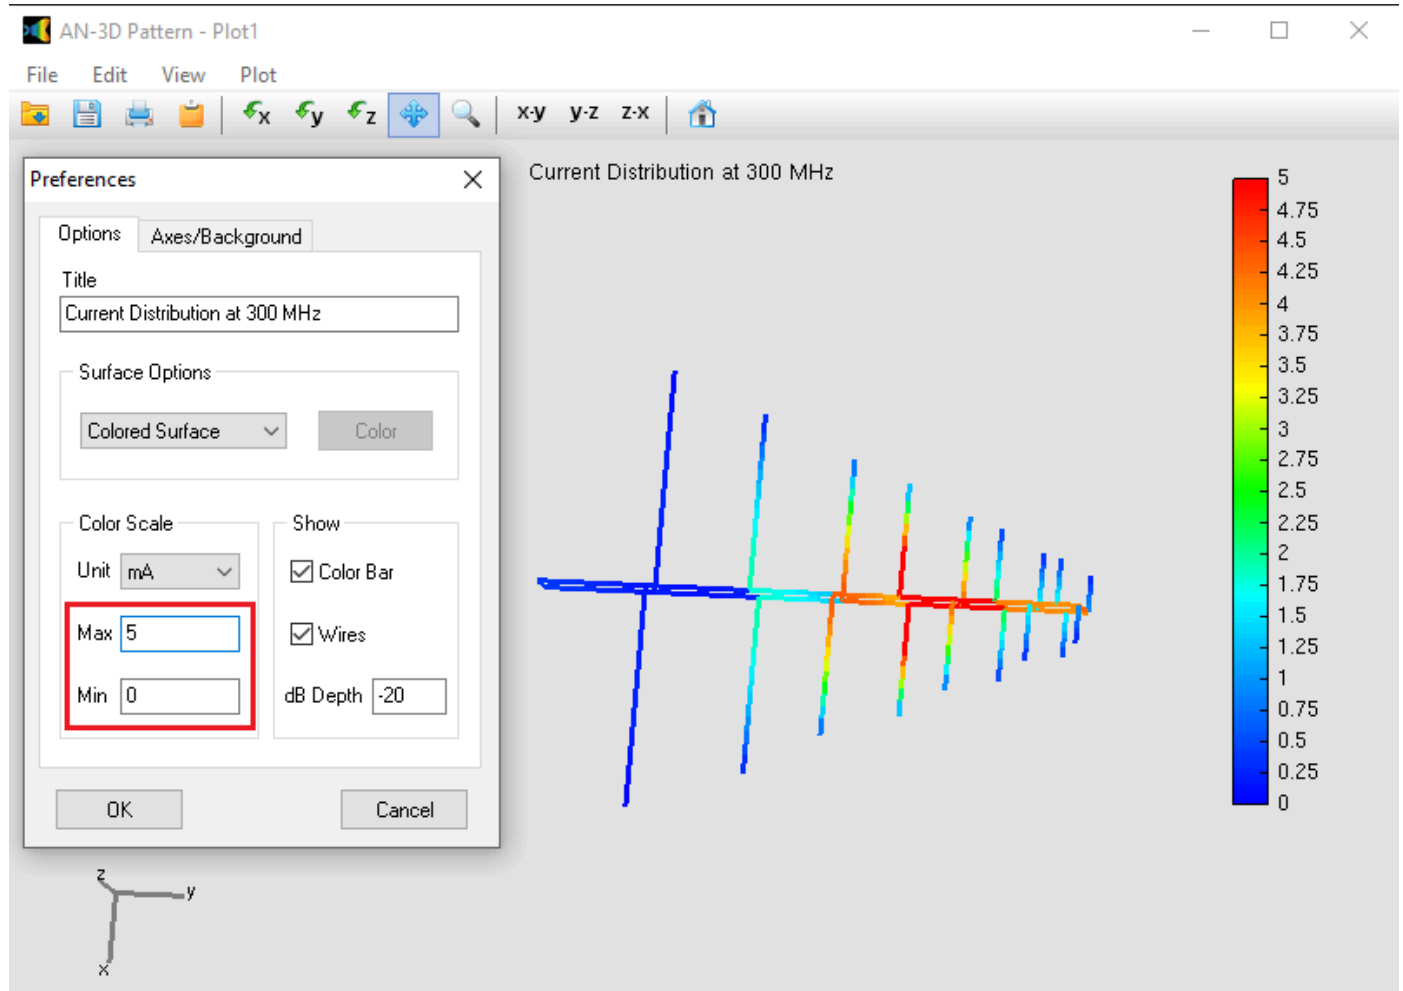

Fig. 2: Color bar scale can be adjusted in the Preferences window of AN-3D Pattern.
- Navigate to **Edit > Preferences** in the AN-3D Pattern menu (**Fig. 2**).